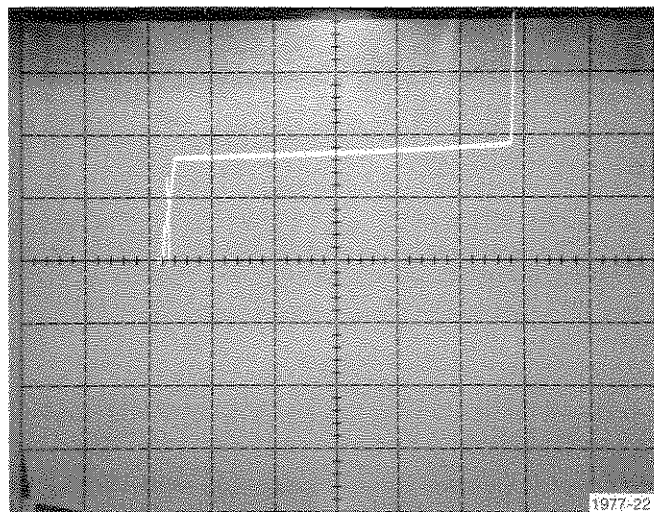

Fig. C-4. − Input bias current display.
c. Check that the vertical display is ≤ 3.75 divisions from the graticule center (≤ 500 nA, see Fig. C-4).